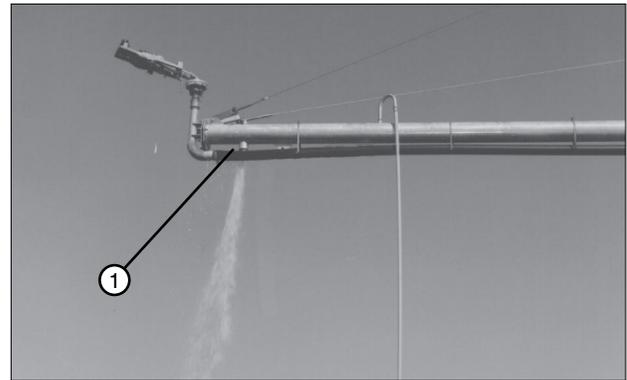

Figure 49-1 1. Overhang Drain
4. Remove plugs from the overhang drain. See figure 49-1.